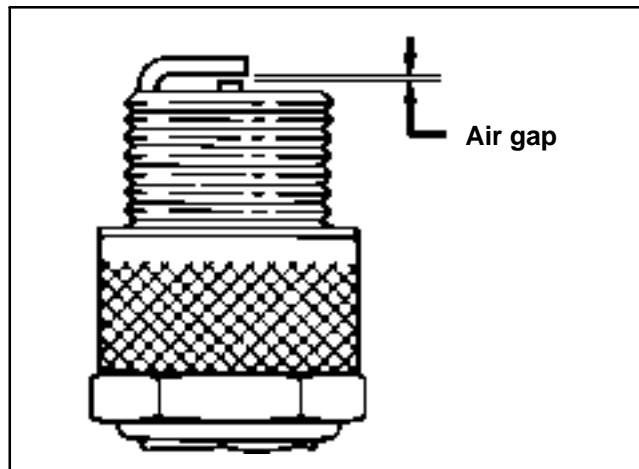

Figure 9
4. Correctly adjust air gap (Fig. 9):